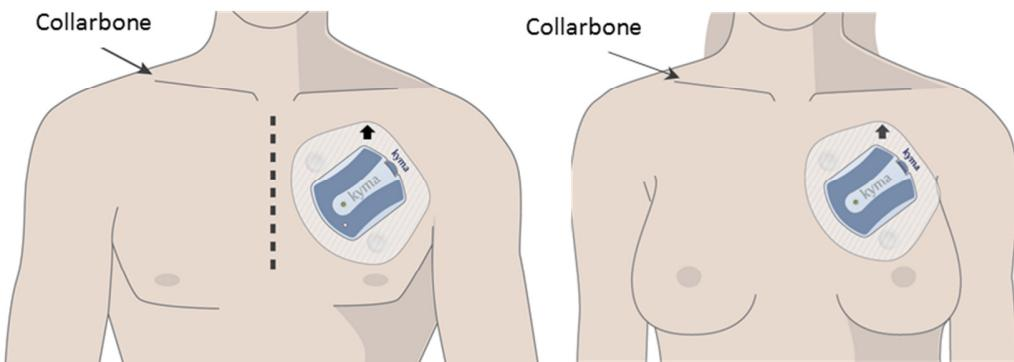

Figure 10: Device (Sensor + Patch) applied to front
6. Place the Patch below the left arm pit with the nipple aligned anywhere between the top and middle of the Sensor. See **Figure 10**.